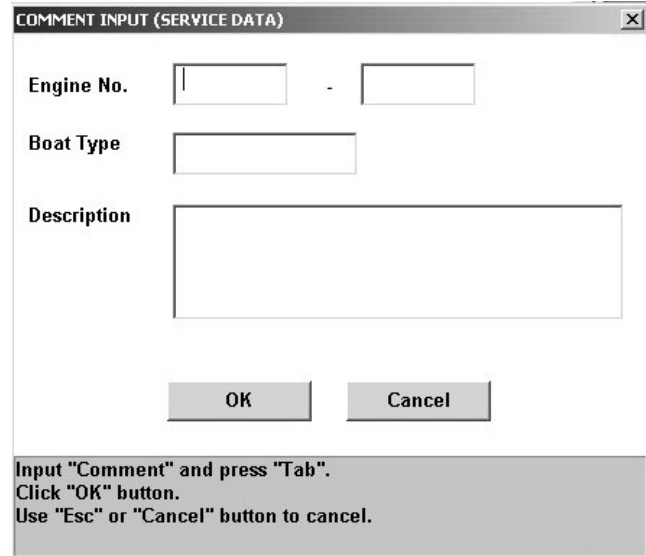

Fig.112
1. In the SERVICE DATA window (Fig.93) of the outboard motor (ECM) connected to the master BCM, click the "Save(F3)" button ("F3" key on the keyboard). The COMMENT INPUT (SERVICE DATA) dialog box appears. From this dialog box, type a comment into the Engine No., Boat Type, and Description fields and then click the "OK" button. (Fig.112)